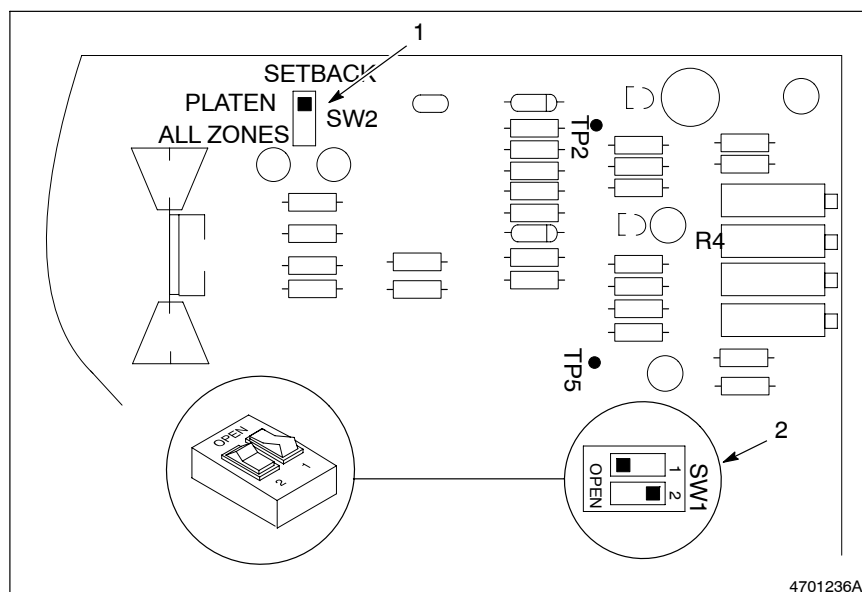

Fig. 3-4 LCU Circuit Board Detail
2. See Figure 3-4. If melter is equipped with the optional standby feature, set SETBACK slide switch SW2 (1), on the LCU circuit board, to either PLATEN or ALL ZONES (the factory setting is ALL ZONES). Adjustment instructions for this feature are provided in the *Operation* section.